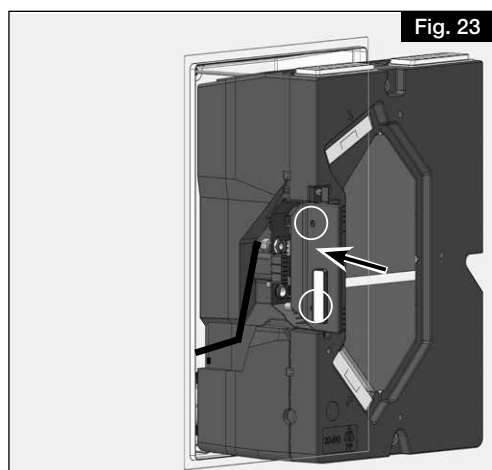
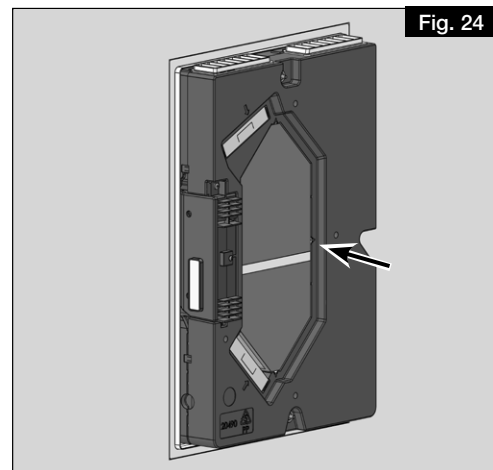

Fig. 23
Fig. 24
6. Secure the terminal box cover with the two screws. Push the unit fully into place (see Fig. 23, Fig. 24).